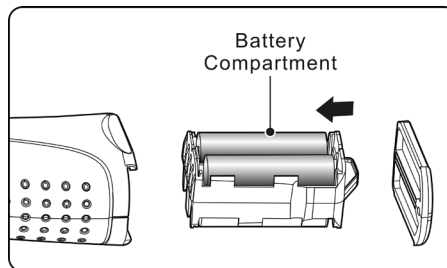

Fig. 5
- ✓ Pull out the battery holder and remove batteries. **(Fig.5)**
- ✓ To install new batteries, insert four (4) new AA batteries into the slots in the battery holder.